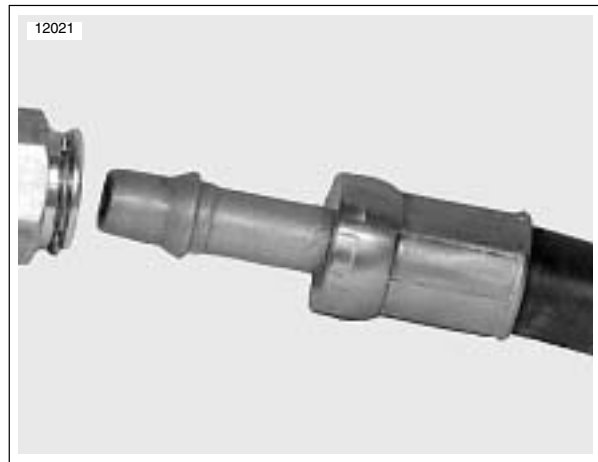

Figure 3-109. Flanged Oil Line
2. SEE Figure 3-109. Push the correct flanged oil line into the correct fitting in the swingarm until each one clicks in place under the spring clip.